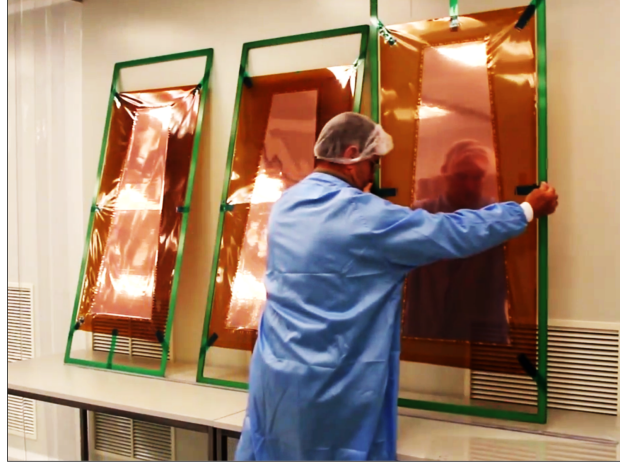

Figure 40: Setting up the GEM foils in vertical position.
Step 1: Place all the GEM foils (together with their frames) in vertical position against the wall (Fig. 40).